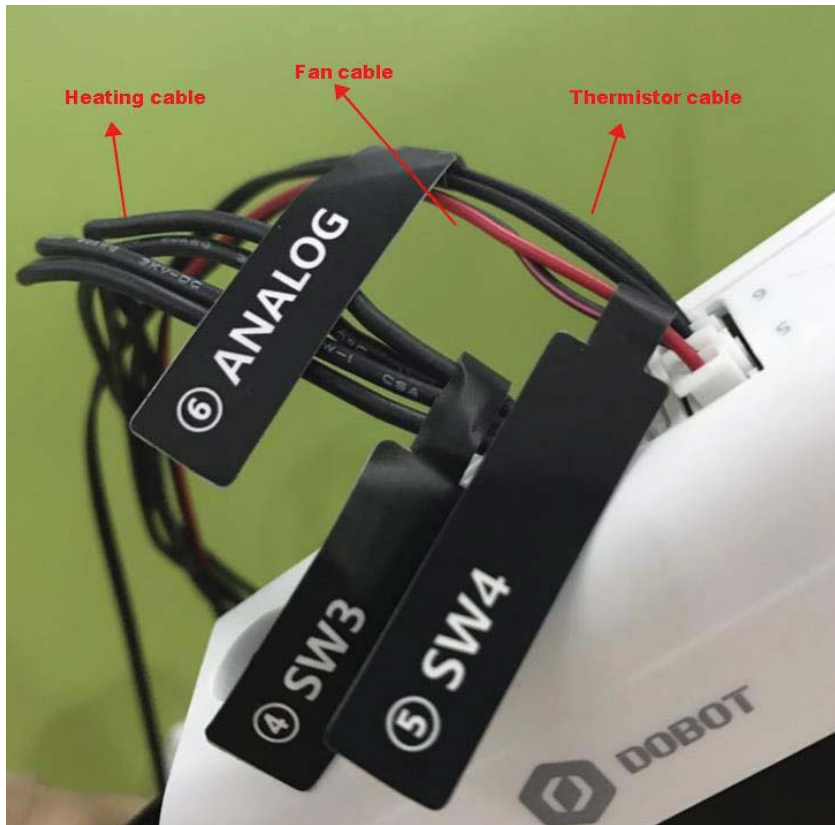

Figure 5.121 Connect hot end to the Forearm
- Step 5** Insert the heating cable to the interface 4 on the Forearm, the fan cable to the interface 5 and the thermistor cable to the interface 6, as shown in Figure 5.121.